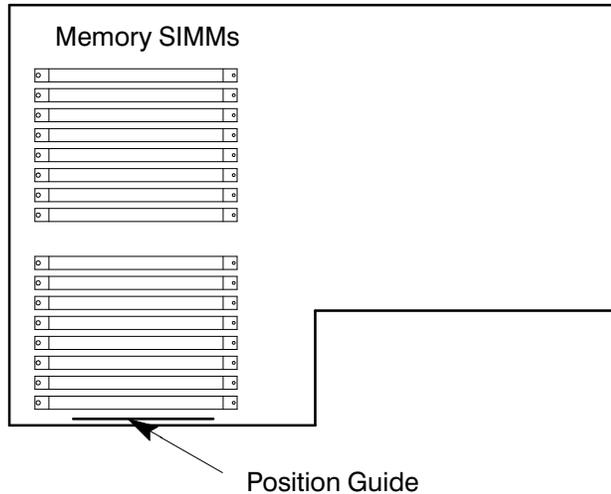

Figure A-21. CPU Assembly Orientation
- 6.** To install a new memory SIMM, turn the CPU assembly until the memory SIMMs are in the position shown in Figure A-21.
7. Refer to the Position Guide on the CPU board that states, “<— POSITION MEM MODULE AS SHOWN,” as shown in Figure A-21.